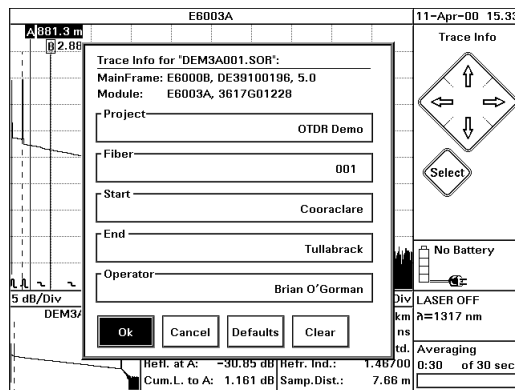

Figure 52 Trace Info Screen
- You see a list of comments and labels (Figure 52).